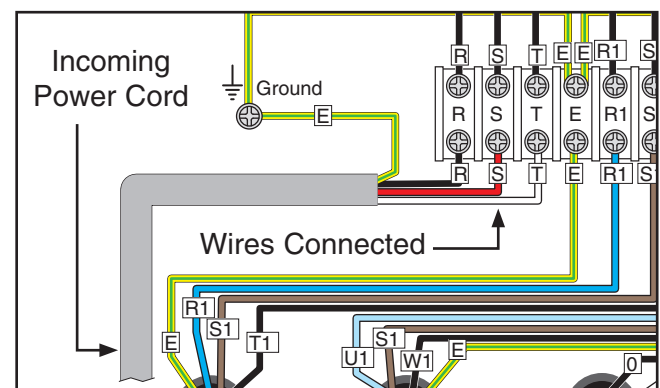

Figure 23. Ground and hot wires connected.
4. Connect the incoming hot wires and ground wire to the terminals shown in **Figure 23**.